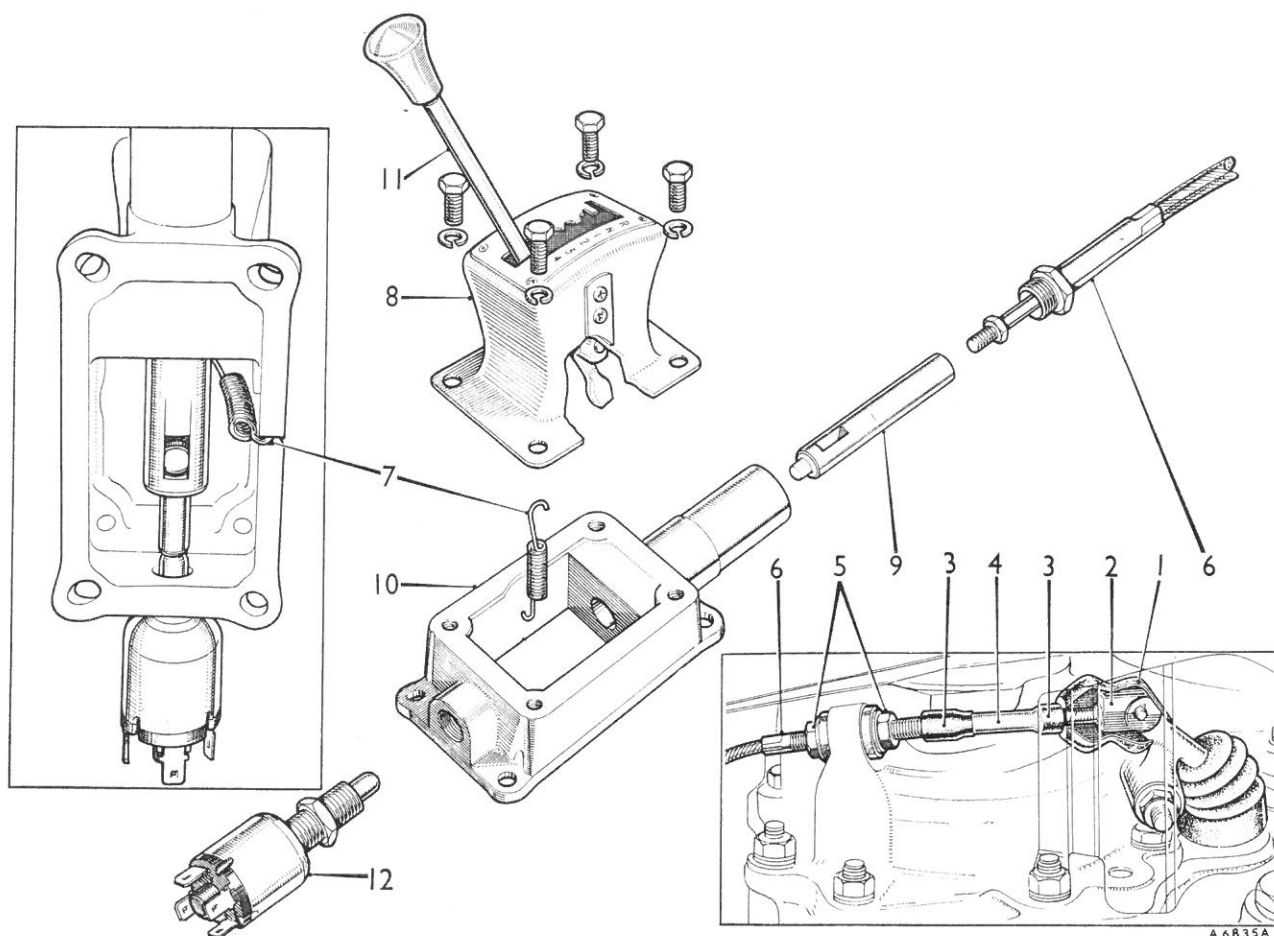

Fig. Fa.57
- (1) Remove the weather protection cover from the converter housing and disconnect the gear-change cable by removing the clevis pin. Slacken the yoke clamp nut and remove the yoke, nut, rubber ferrules, and sleeve (see Fig. Fa.57). Remove the adjusting nuts from the outer cable and pull the cable clear of the transmission.
- (2) Release the cable clip from the floor panel.
- (3) Remove the front floor covering.
- (4) Disconnect the electrical leads from the inhibitor switch.
- (5) Remove the screws securing the gear change housing, carefully pull the cable through the rubber dust excluder, and remove the housing and cable assembly.